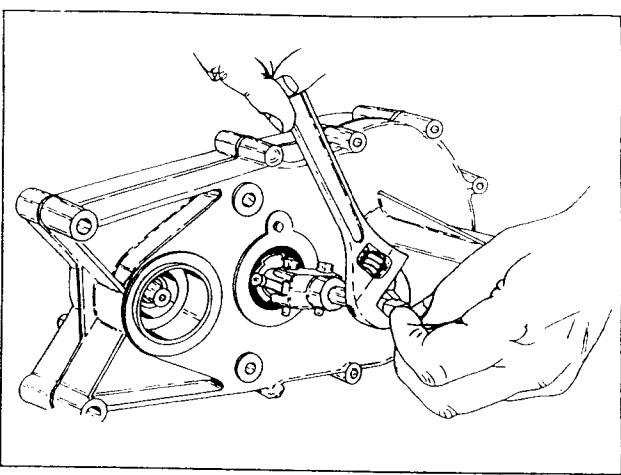

FIGURE 6
- 4.03 Couplings (#51) may sieze to shaft splines and thus a puller is recommended. See figure 6. Tapping couplings lightly may be necessary for removal.